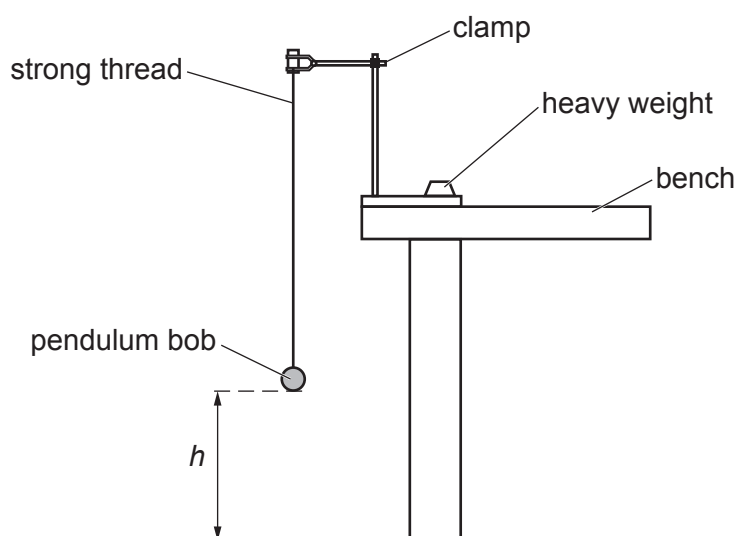

Fig. 2.1
2. One stand, boss and clamp will be used to attach the pendulum as shown in Fig. 2.1. A heavy weight must be placed on the base to prevent it from toppling. A second stand, with the boss and clamp attached, must be placed on the bench with the set square and the metre rule.
The supervisor must ensure that the apparatus is as shown in Fig. 2.1, and that the second stand has the boss and clamp attached and is placed on the bench with the set square and metre rule.